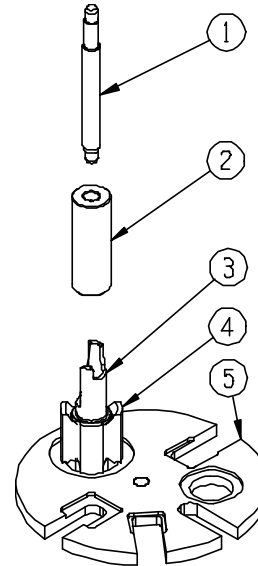

Figure 11-18a HH46, HH57 and HH68 Valve Guide and Shock Absorber Disassembly
5. **(HH57 and HH68)** Refer to Figure 11-18a. Place the Valve Guide on the Press Plate with the finger notch end up.